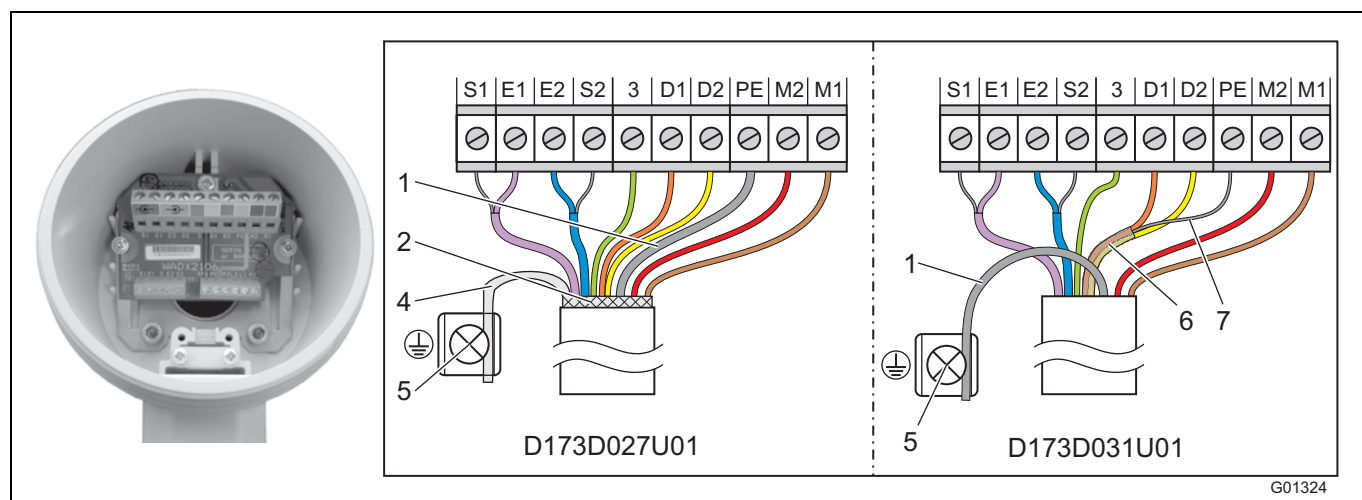

Fig. 34
Connect the cable end on the flowmeter sensor side as shown in Fig. 34.
- Connect all other wires as shown in Fig. 34.